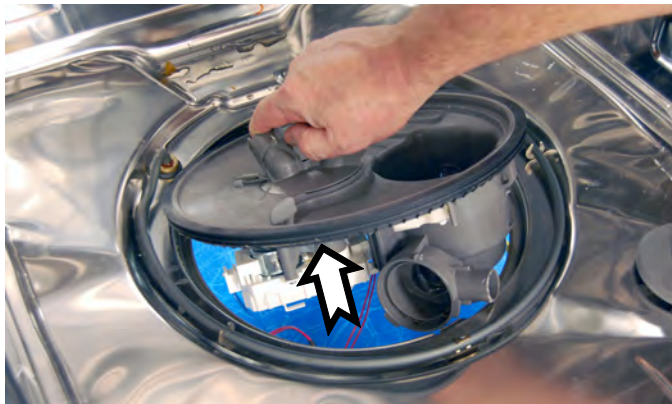

Figure 12
9. Tilt the assembly and lift out to remove, see figures 12.